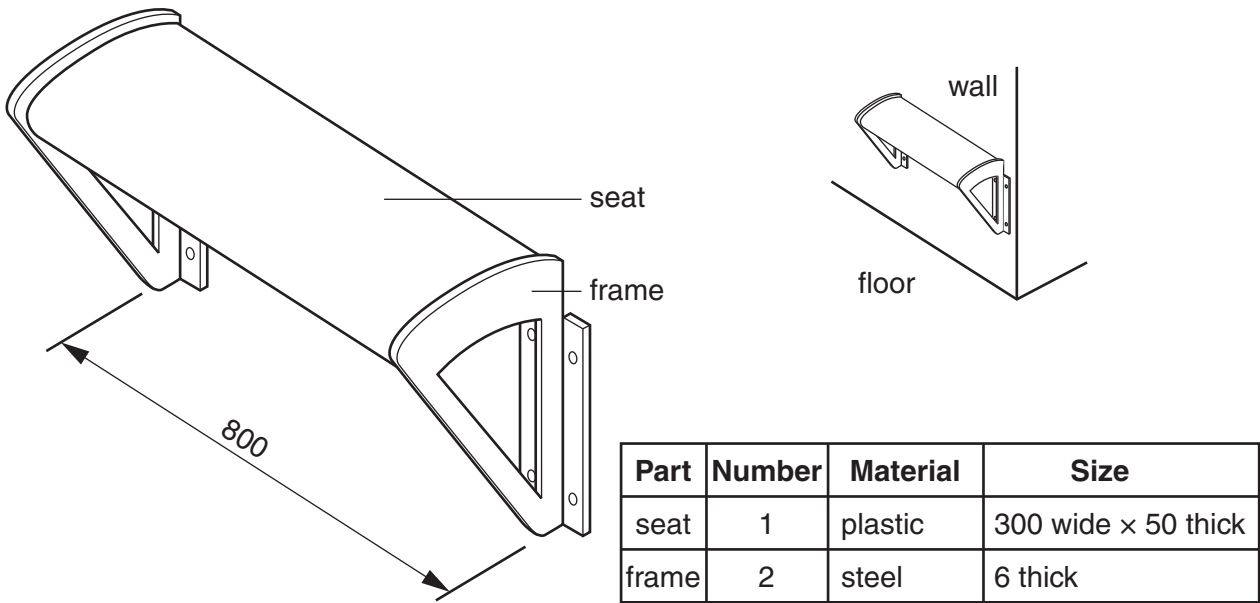

Fig. 7
- 5 Fig. 7 shows views of a wall-mounted bench used outdoors. The bench is supplied as three separate parts for self-assembly.